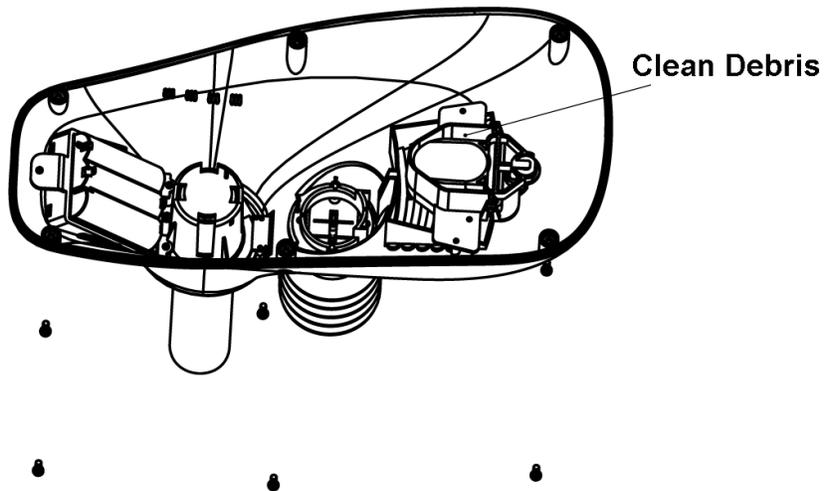

Figure 35
3. Clean any debris and spider webs, as shown in Figure 35.